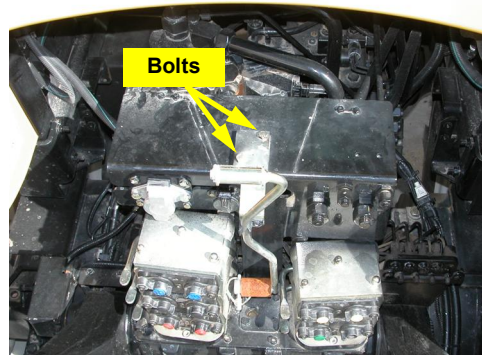

Figure 2a: Steering block mounting location
- a. Locate the two bolts at the rear of the tractor that attach the three-point top link retainer (Figure 2a).